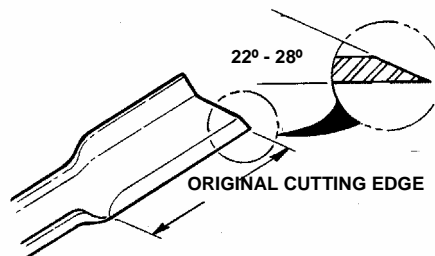

FIGURE 4.4
3. Remove bolt, washer and spacers from blade. Sharpen existing cutting edge only at an angle of 22 to 28 degrees. **DO NOT** sharpen beyond existing cutting edge. See Figure 4.4.